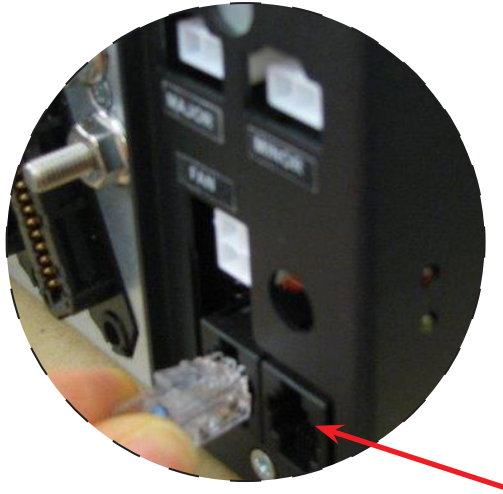

Figure 21 — CAN OUT Terminator
2. Insert the CAN terminator (P/N 5450228-001) in the last CAN OUT location. See Figure 21.